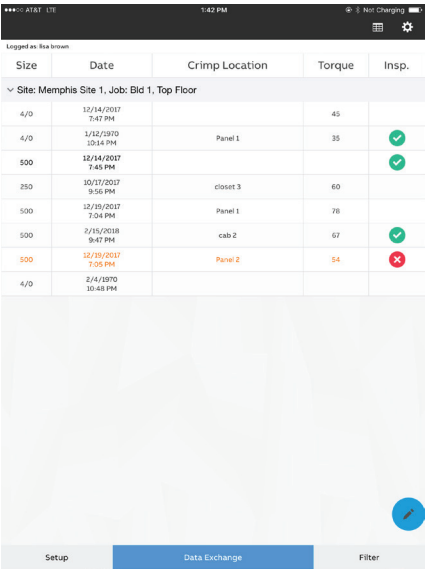

Figure 06
- Select crimp to review from crimp list (Figure 06)